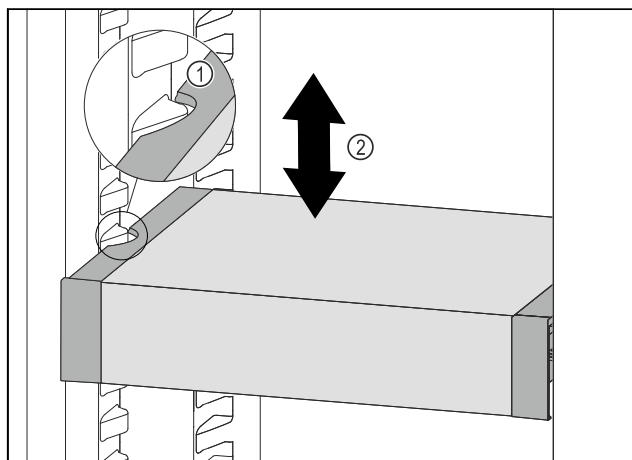

Fig. 195
- Pull VarioSafe forwards until the recesses in the side of the VarioSafe are at the level of the support rib in the refrigerator compartment. *Fig. 195 (1)*
- Move VarioSafe up or down in the refrigerator compartment until the desired height is reached. *Fig. 195 (2)*